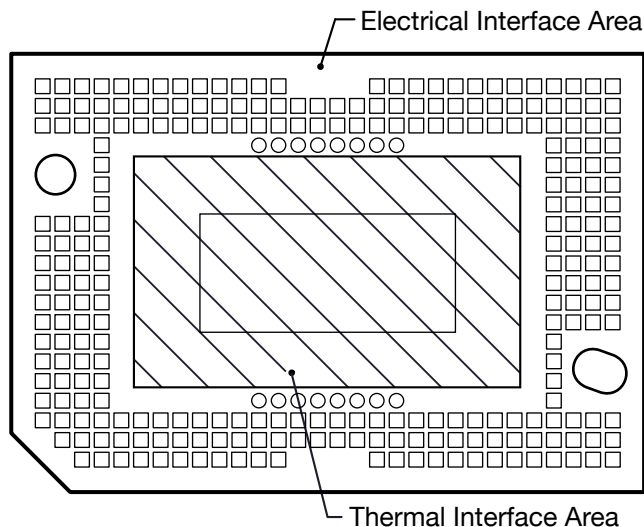

图 5-7. System Mounting Interface Loads
(1) Uniformly distributed within area shown in 图 5-7.